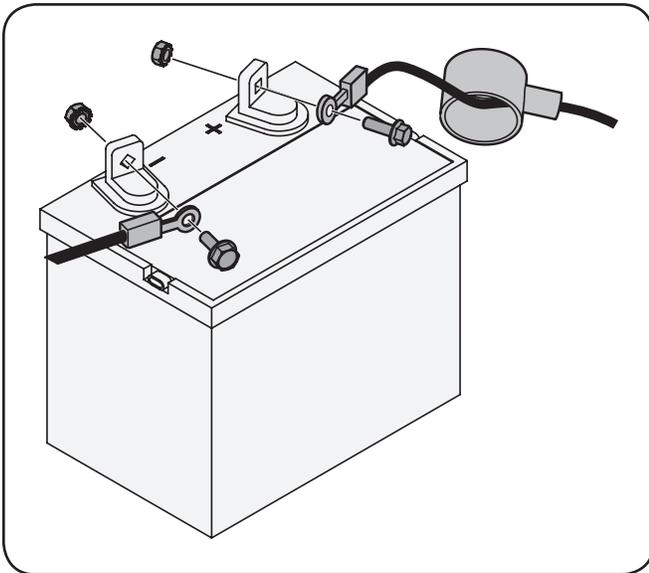

Figure 3-7
- Remove the plastic cover, if present, from the positive battery terminal and attach the red cable to the positive battery terminal (+) with the bolt and hex nut. See Figure 3-7.
- Remove the plastic cover, if present, from the negative battery terminal and attach the black cable to the negative battery terminal (-) with the bolt and hex nut. See Figure 3-7.